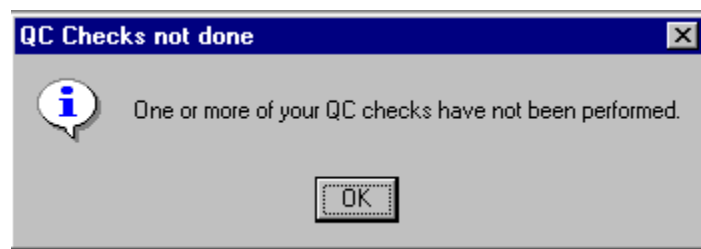

Figure 6-16. Quality control reminder message box
- When you log on to the application before the quality control checks are performed, the system displays a message: ‘One or more of your QC checks have not been performed.’ See Figure 6-16.